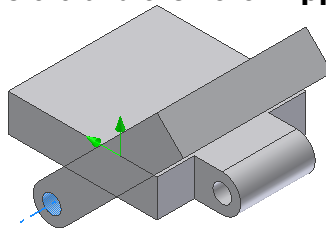

Figure 1.9
14. Move the cursor over the hole on Plate 2:1 until the axis is indicated as shown in Figure 1.9 and select using the **LMB**.